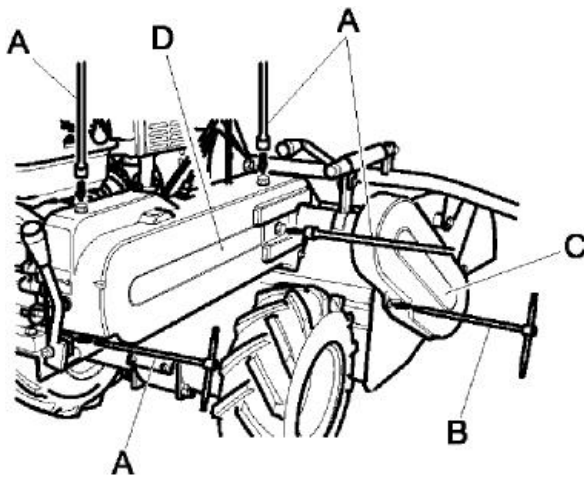

Figure 9
- remove the plastic guard (Fig. 9 Ref. C), by unscrewing and taking out the screws shown in Figure 9 Ref. B
To access the transmission belts and rotor brake adjustment device area, remove the plastic guard (Fig. 9 Ref. D) and unscrew and remove the 4 screws shown in Figure 9 Ref.A.
- The belt guard (Fig. 9 Ref.s. D and C) and flail guards (Fig. 1 Ref. H) must always be correctly installed and intact. If they become damaged, have them repaired before the machine is used again.
- Clean the inside of the belt guard (Fig. 9 Ref. D) with a blast of compressed air.